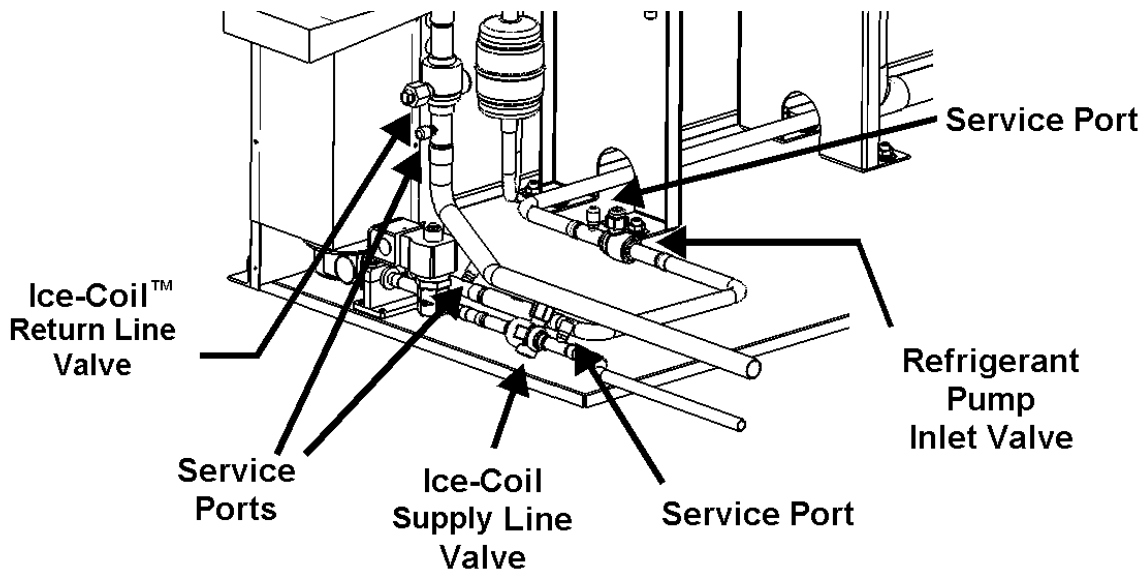

Figure 23 – Valve Locations
- access port on ICE-COIL supply line VALVE inside the ICE BEAR RMS area (see Figure 23)
- access port on ICE-COIL return line VALVE SERVICE PORT inside the ICE BEAR RMS area (see Figure 23)
- Use two (2) Schrader core remover tools to remove VALVE cores prior to attaching two (2) evacuation hoses.